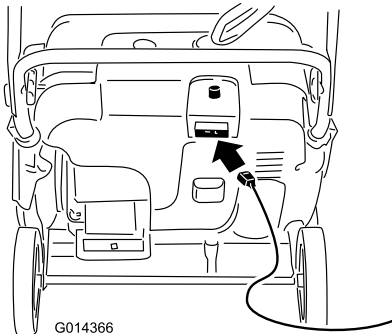
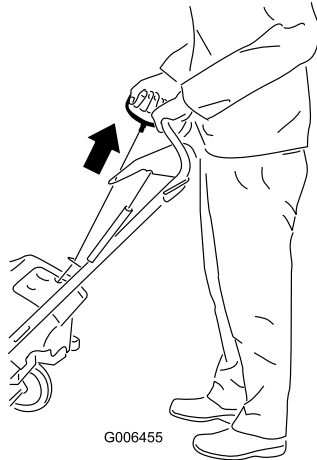

Figure 17
Figure 18
- 4. Connect an extension cord to a power source and the machine, and push the electric-start button (model 38454 only) (Figure 17), or pull the recoil start handle (Figure 18).